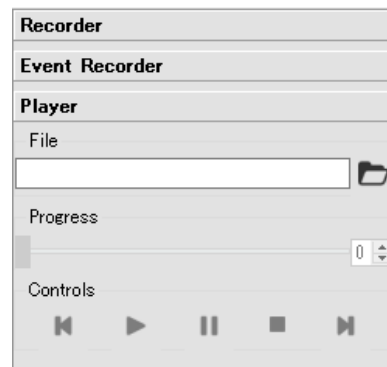

Figure 7-61 Log player window
- 4 Select the log data file for re-playing (Figure 7-61).